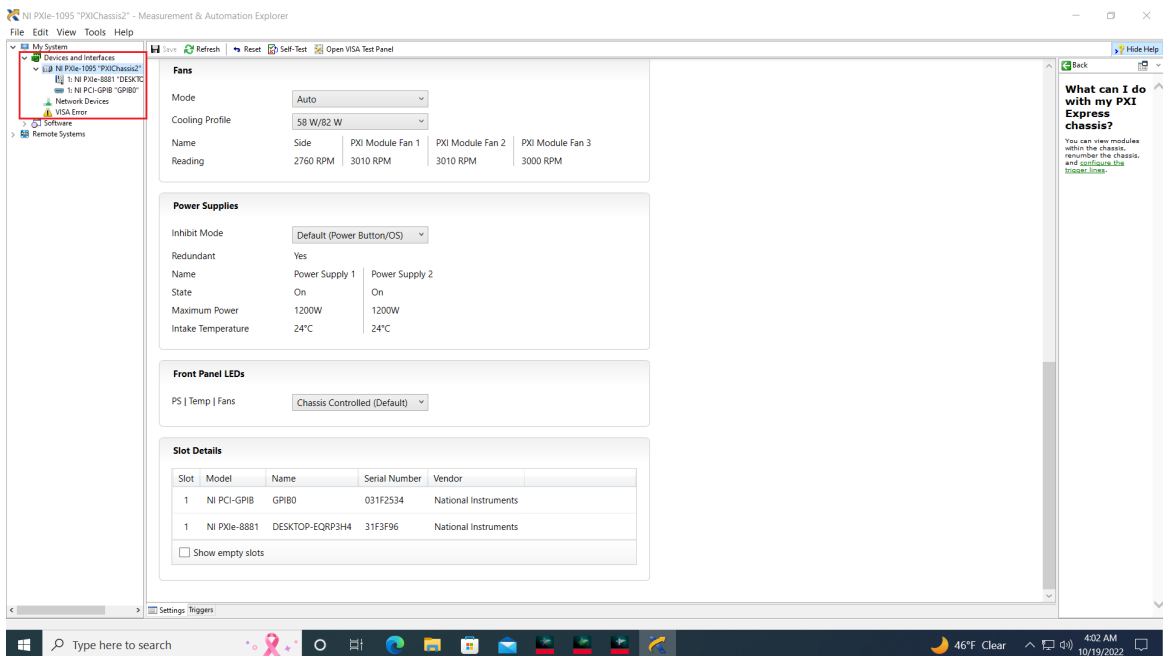

Figure 40 Non appearance of M5000 series modules in NI MAX interface
This issue is specific to the users who have installed one or more M5000 series modules in the National Instruments (NI) chassis. The modules may be detected by the Keysight IO Libraries Suite. However, if you do not see those under “Devices and Interfaces” in the NI – Measurement & Automation Explorer (MAX) Interface and see VISA error, as shown in Figure 40, the possible reason is that the NI associated drivers were not installed properly.